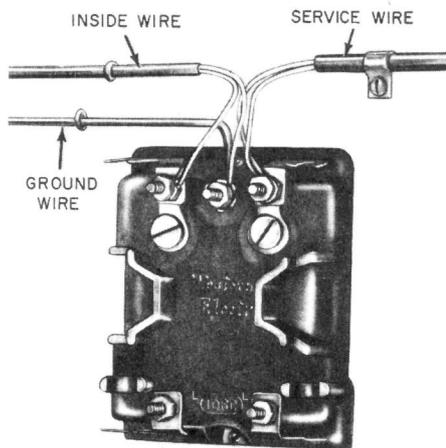
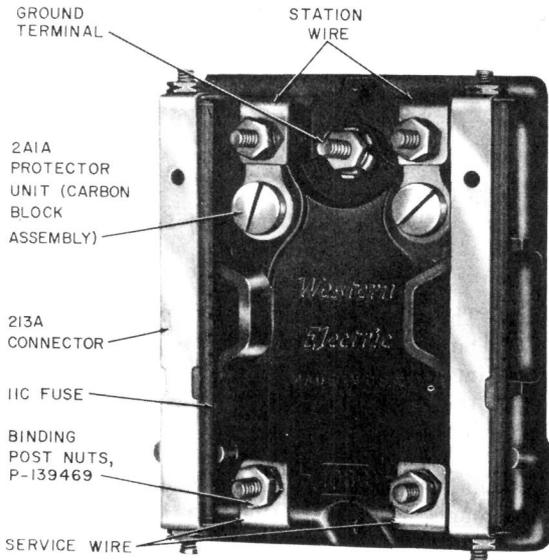

Fig. 91—Alternate Method of Converting 106C Protector
Fig. 92—Converted 106C Protector
**14.03** The 106C and the 1293C protectors may be converted to fuseless operation by connecting the line wires directly to the station side of the protector, provided the line wires are of sufficient length. The fuses may then be removed (Fig. 91). Where the line wires are too short to reach the station side of the protector, install two 213A connectors as described in 14.02(11). The 106C protector is equipped with 2A1A protector units; therefore, adapters are not required (Fig. 92).